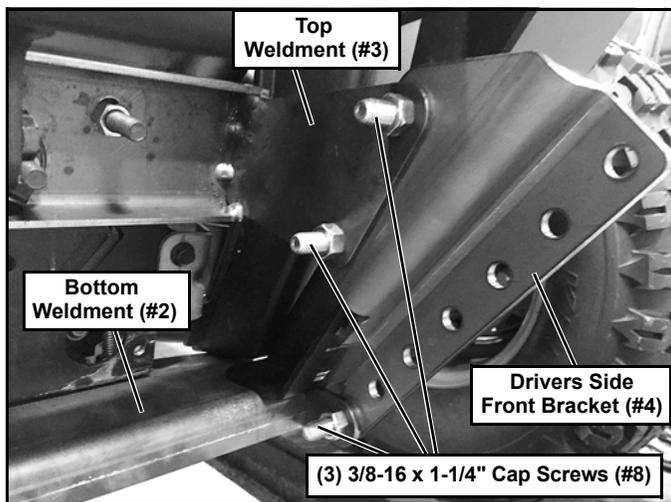

Figure 7
11. On the drivers' side, align the Drivers Side Front Bracket (#4) to the outside of the Top Weldment (#3) and Bottom Weldment (#2). The rearward (2) holes align with the Top Weldment (#3), and the forward bottom hole aligns with the hole in the Bottom Weldment (#2). (See Figure 7.)
12. Insert (3) 3/8"-16 X 1 1/4" Cap Screws (#8) into the Drivers Side Front Bracket (#3) and thru the Top and Bottom Weldments (#3 & #2). Secure with (3) 3/8"-16 Lock Nuts (#9). (See Figure 7.)